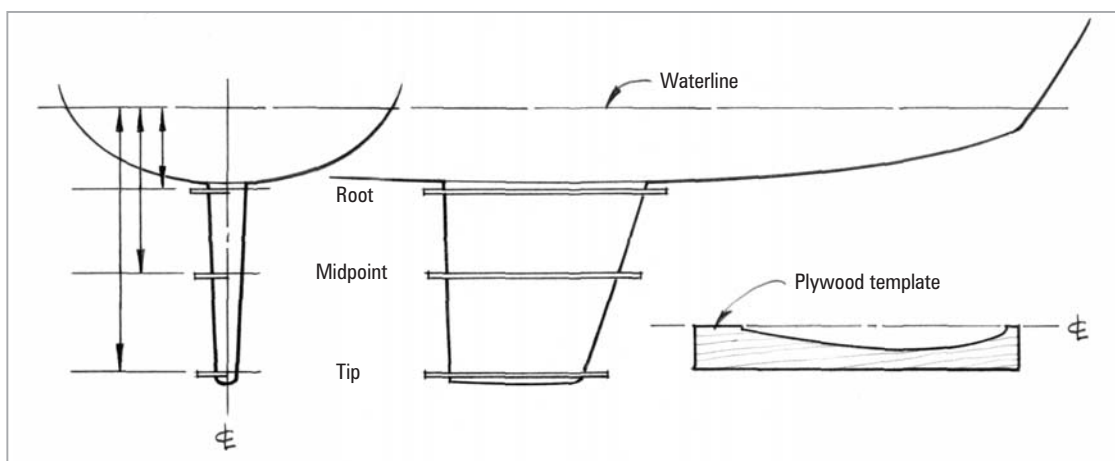

Figure 13 Obtain the profiles for three locations on the keel: the root (top of the keel near the hull attachment point), the midpoint and the tip of the keel.
1. Transfer the full size profiles to $\frac{1}{2}$ " A/C-grade plywood (*Figure 13*). Cut out the three templates with a band saw or saber saw and sand the edges of the foil shape carefully to eliminate any bumps or unfairness. Mark the keel's centerline on each end of the template. Seal the profile edge of the templates with a coat of epoxy and sand them smooth after the epoxy cures.